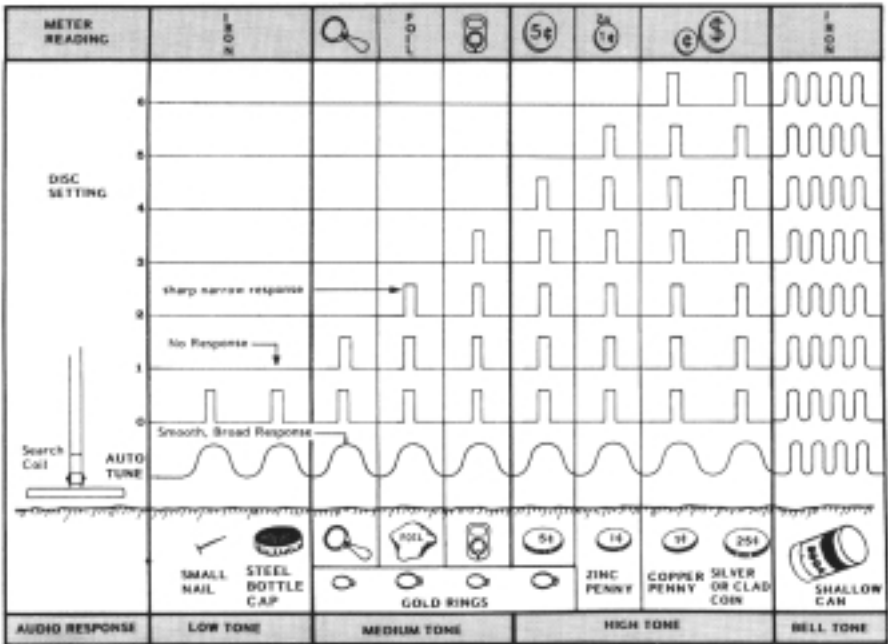

Figure 4. Typical 1212-X audio responses over 1-inch deep targets with search coil sweeping 2 to 3 inches above ground.
7. Figure 4 shows some different responses you may expect at different levels of discrimination. **Note:** that as you increase the discrimination level, you progressively eliminate more targets including some good ones, such as nickels and gold rings.